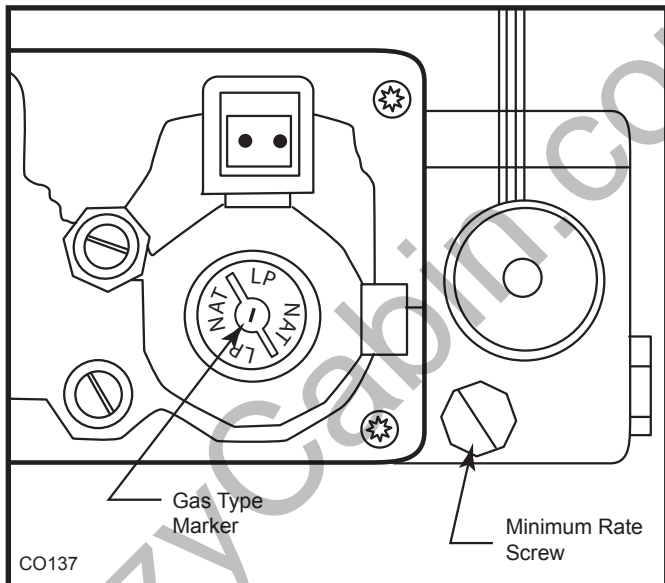

Fig. 58 Remove black plastic cap and adjust rotary knob to correct gas type. (LP position shown) Replace minimum rate screw with one supplied in conversion kit.
2. Remove the black cap by pulling the cap straight off. Note the position of the marker on the top of the rotary knob. This marker will point to NAT or LP. (Fig. 58)
4. Remove the minimum rate screw, using a small screwdriver, located in the valve next to the motor drive. (Fig. 58)